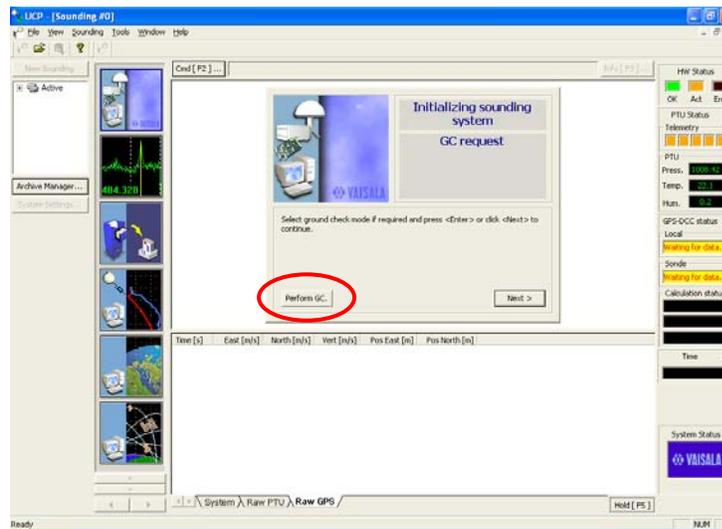

Figure 8
31. The system will go through initialization process. Click on “Perform GC” when the following screen (Figure 8) appears.